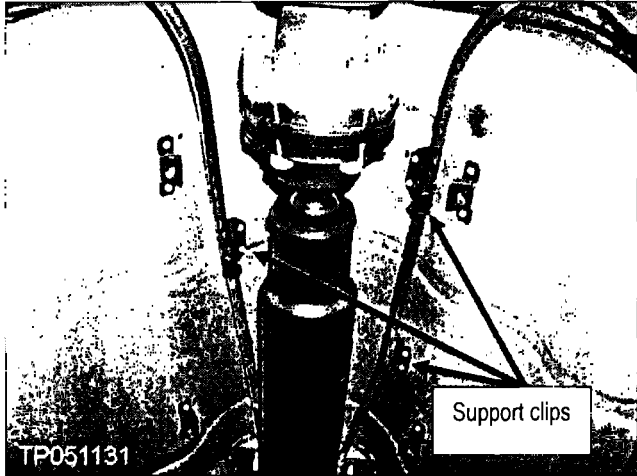

Figure 16
20. Remove the parking brake cables from the support clips (see Figure 16).